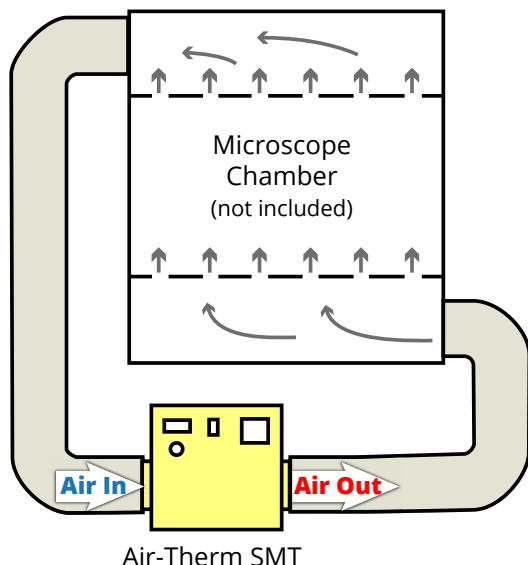

Fig. 2—A typical AirTherm SMT installation places the heated air inflow at the bottom and the cold air return at the top of the microscope chamber.
The system is typically used in a closed loop configuration (Fig. 2).
3. Connect tubing with the included clamps as shown in Fig. 2 on page 2. Make sure the air outlet of the **AirTherm SMT** connects to the humidifier before going on to the microscope chamber.